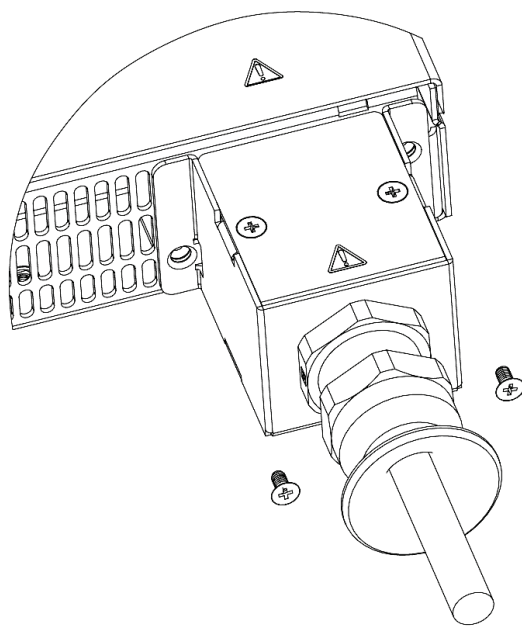

Figure 4-26: Strain Relief Assembled to Power Supply Rear Panel
9. Fix the strain relief assembly, by two M3x8 Flat head screws, supplied in the accessories box, as shown in Figure 4-26. Tightening torque: 4.7-5.7 Lbf-inch. (0.53-0.64Nm). Remember to connect AC input connector into power supply AC input plug.